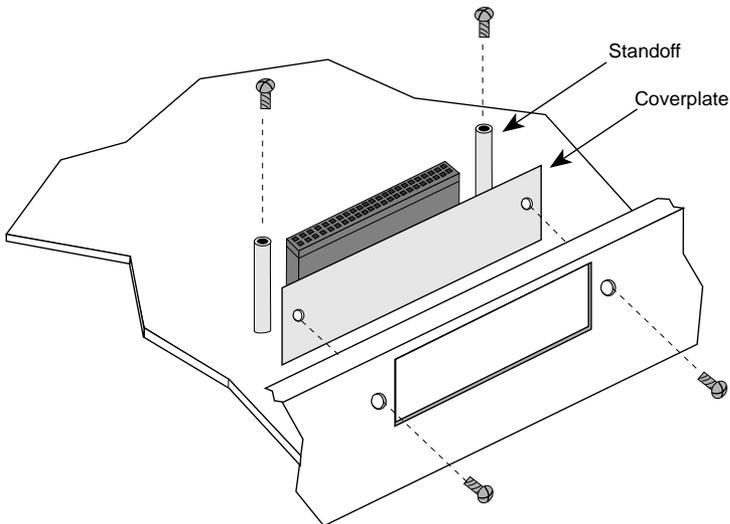

Figure 2-1. Removing the Coverplate
5. Remove the BRIM coverplate screws and the BRIM coverplate. (See Figure 2-1.)
4. Remove the BRIM coverplate screws and the BRIM coverplate. (See Figure 2-1.)